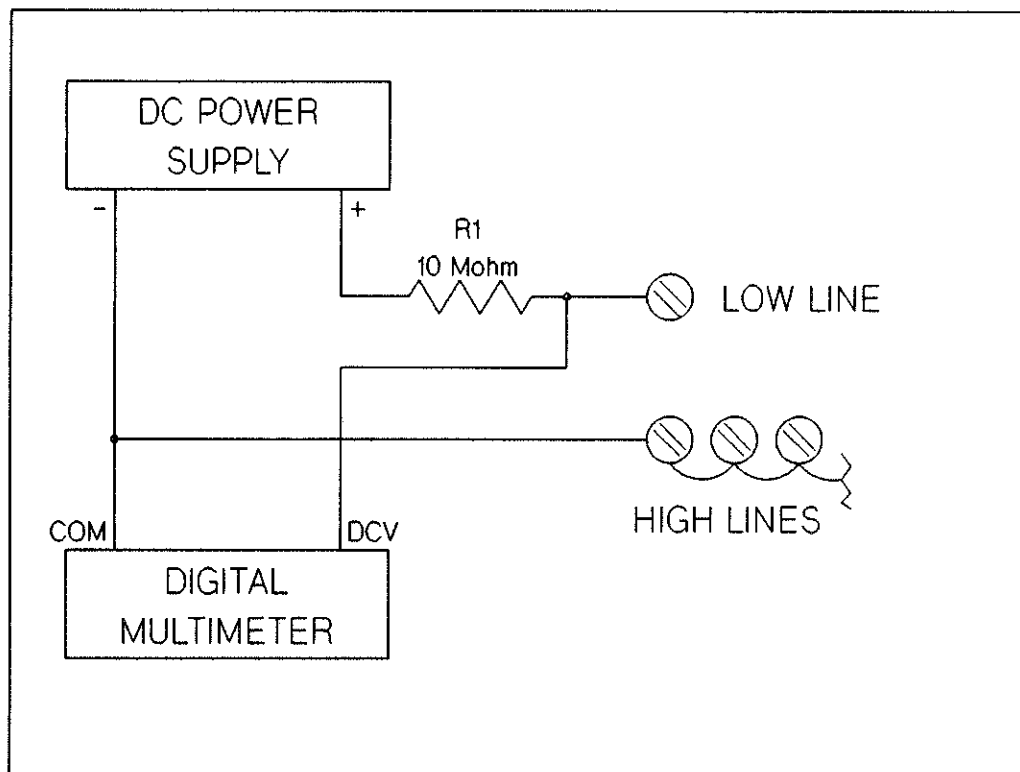

Figure 8-42 HP 44706A HIGH to LOW DC Isolation
8. Connect the test circuit between the shorted HIGH lines and the LOW line on the test fixture as shown in Figure 8-42.